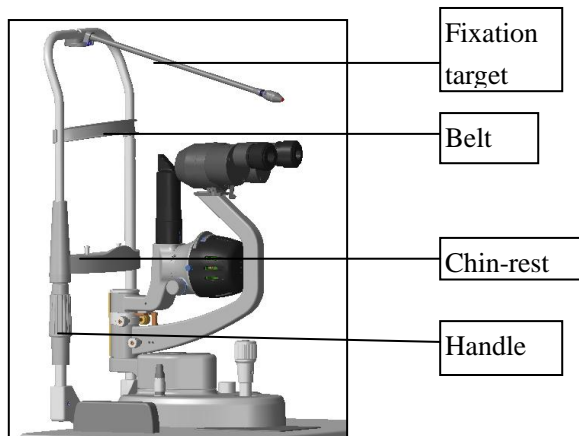

Fig.3.2.1
18. The fixation target is lighted (Fig.3.2.1)
- 1) The patient should put chin on the chin-rest and push forehead against the forehead belt. Adjust the elevation of chin-rest until the light of slit lamp projects to the correct position of patient's eye. (Fig.3.2.1).
- 2) The fixation target is used to attract patient's attention. Move the tube to put the fixation target at a proper position (Fig.3.2.1).